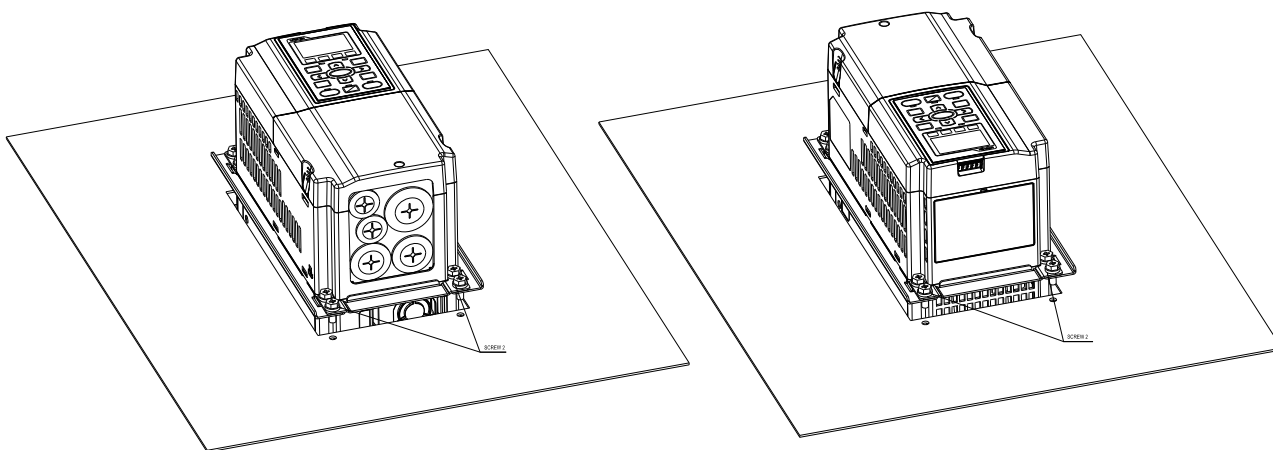

Figure 4
4. Plate installation, place 4 of the screw 2 (M6) (figure 4) through accessory 2&3 and the plate then fasten the screws. Screw torque: 25~30 kg-cm / [21.7~26 lb-in.] / [2.5~2.9 Nm]